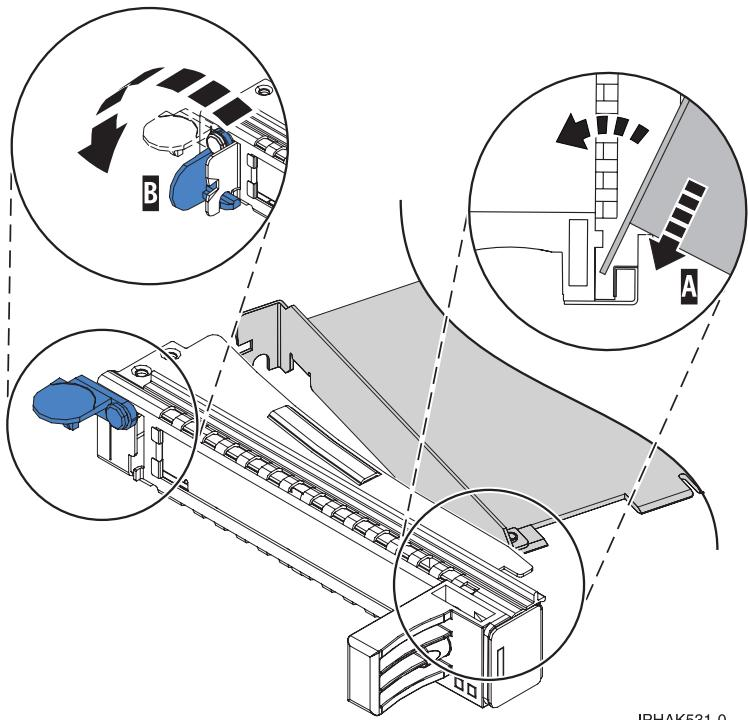

Figure 28. Adapter removed from the PCI adapter single-width cassette
- With the tailstock clamp in the open position, insert the adapter firmly into the tailstock retaining channel (A). See Figure 28 on page 34.
- c. Close the tailstock clamp (**B**). See Figure 28.